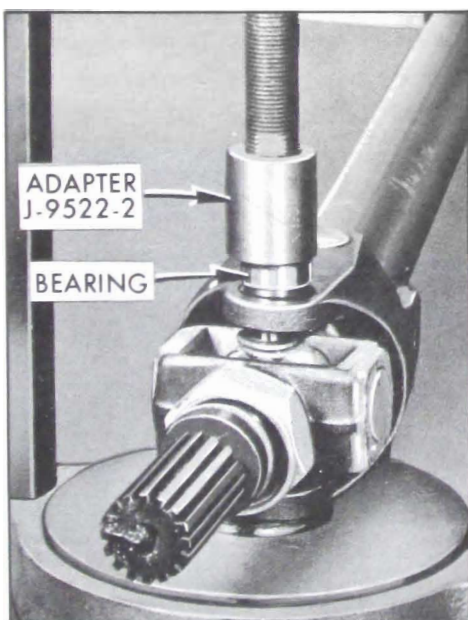

Figure 6-107—Pressing Bearing Into Position
3. Place the assembly in position with Power Ram J-6180 and Pump J-6207 as shown in Figure 6-107.